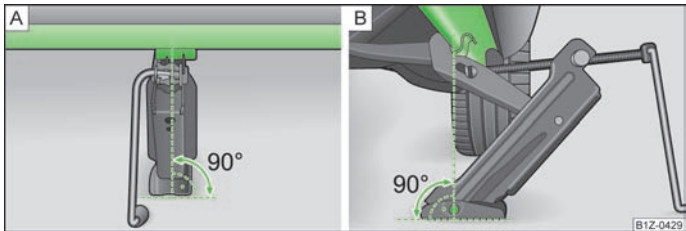

Fig. 178 Attach lifting jack
- \gg Align the lifting jack so that its claw grasps the web \gg Fig. 178 - B below the embossing in the side surface of the lower sill.
- \gg Ensure that the entire surface of the lifting jack base plate rests on level ground and is located in a vertical position to the area \gg Fig. 178 where the claw grasps the web.